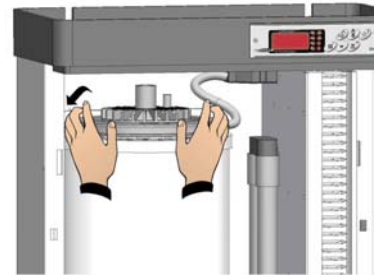

Fig. 30
- Unhook the rear retainer spring from the upper steam flange and slide it off (Fig. 30).